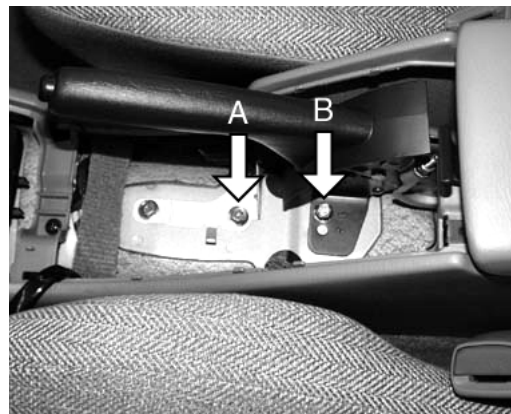

Figure 4
- Remove and retain for reinstallation, the black M8 bolt indicated by the arrow "A" in Figure 4. Loosen the M8 bolt indicated by the arrow "B."